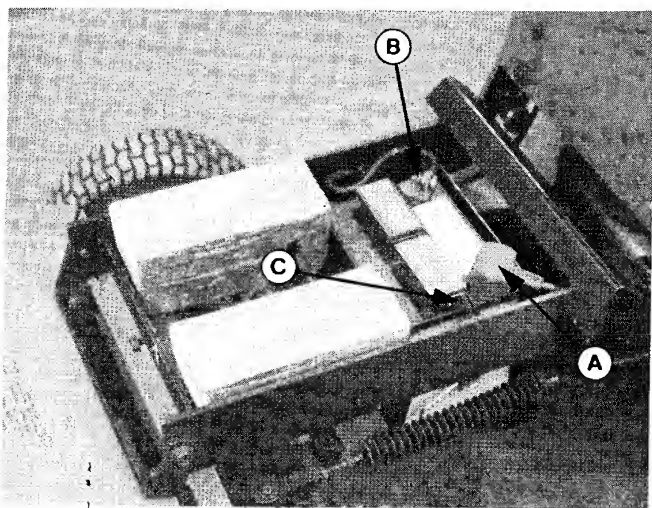

Figure 9. Battery
1. Disconnect the cables from the battery, negative cable first. A positive "+" sign is stamped on the battery next to the positive terminal. For mfg. no. 1691457 and 1691458, lift rear platform to locate battery (figure 9). For mfg. no. 1691330 and 1691198, the battery is located under the seat deck.